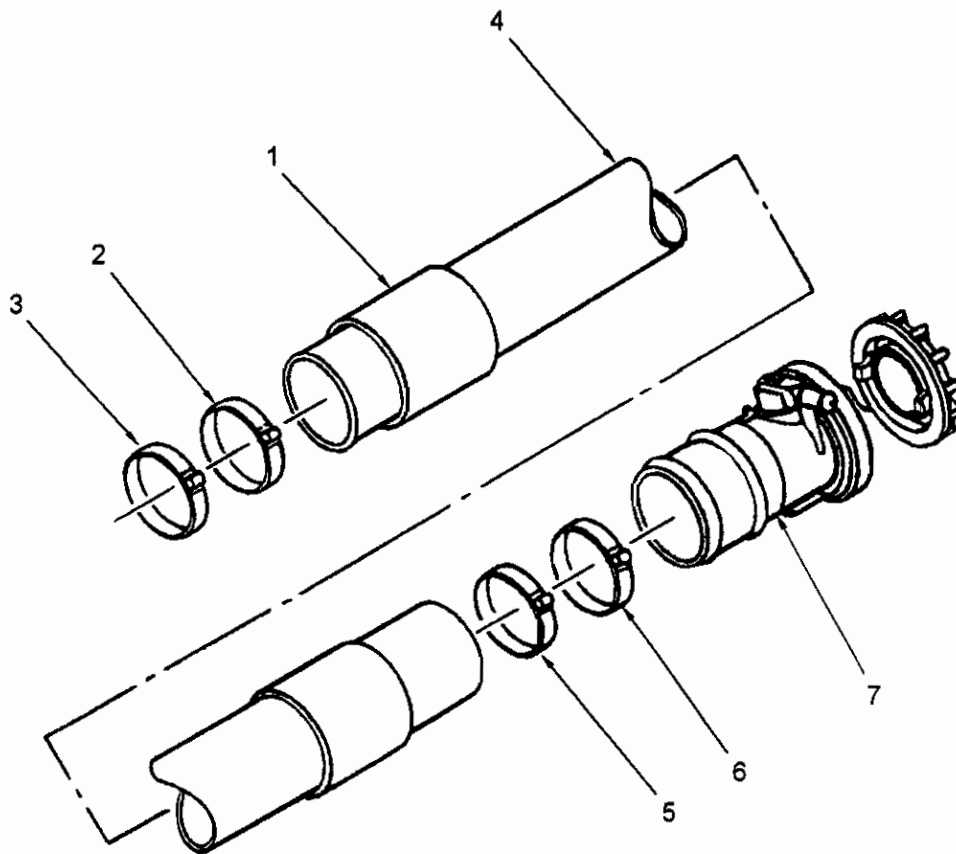

Figure 4-7. Fuel Hose Disassembly and Cleaning
a. Disassembly. (Figure 4-7)**WARNING**
c. Inspection. (Figure 4-7)
- (1) Inspect valved unisex coupling assembly (7) for cracks, corrosion and damaged coupling body.
- (2) Inspect hose (4) for cuts, tears, punctures, bulges and delamination.
- (3) Inspect ends of hose (4) for damaged or missing ground wires. Perform continuity test of ground wire from one end of hose to the other. Continuity must exist.
- (4) Inspect ground wires at both ends of hose (4). At least 1/2 inch of wire must be exposed. If required, trim back hose material to obtain correct wire length.
(10) Repeat steps (1) through (7) for remaining clamps. Clamps should be 1 inch from end of hose and 2 inches apart.
(11) Refer to Figure 4-7 and slide sleeve (1) over clamps (2 and 3).
(12) Start up fuel system and observe repaired hose for leaks.